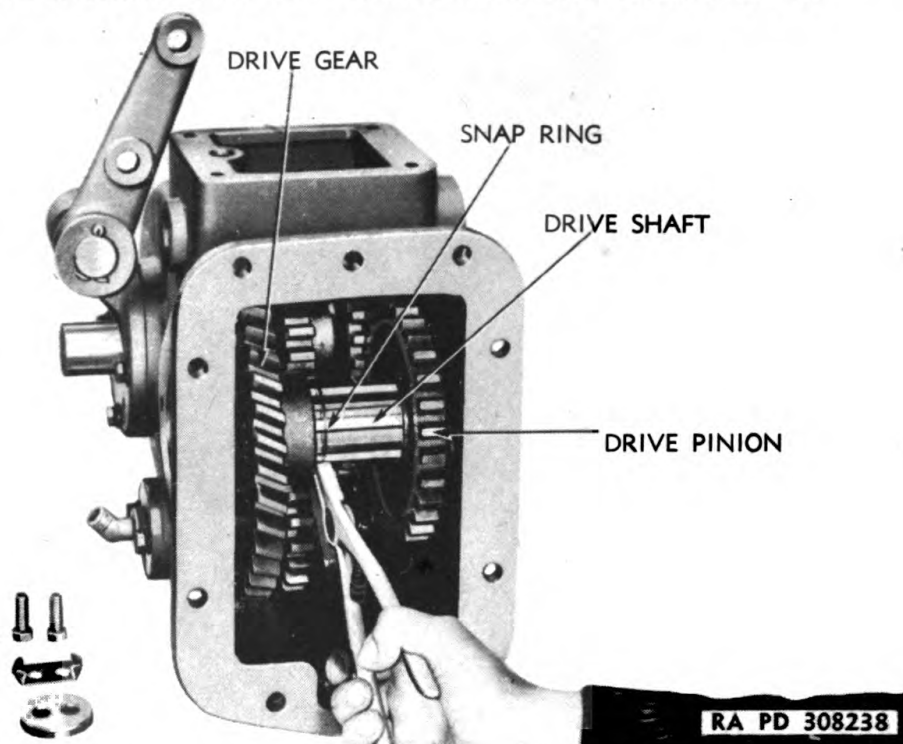

Figure 136 — Snap Ring Removed From Groove in Shaft
b. Remove Drive Shaft and Gears. Remove bearing cover from front side of case (fig. 134) by removing four cap screws from cover. Bend bolt lock away from cap screw heads (fig. 135) and remove cap screws and end washer from end of shaft. Using brass drift, drive shaft toward front of case far enough to uncover snap ring (fig. 136). Expand snap ring out of groove and move it toward front of case. Then drive shaft out of rear of case, removing drive pinion, snap